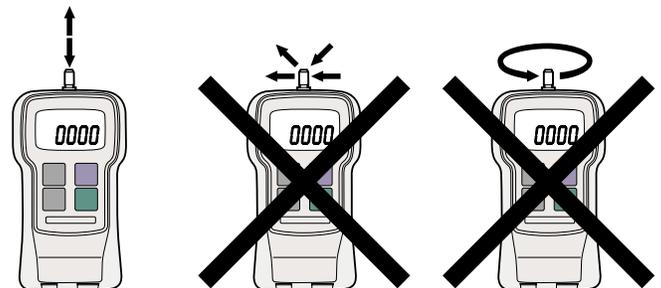

Fig. 1
**NOTE:** It is very important that you measure forces (tension or compression) that are in line with the measuring shaft and not at any angle (see fig. 1). Failure to observe this directive will damage the instrument. Also, after the gauge is positioned and ready to take a measurement (with the proper attachment in place) tare the unit by pressing the ZERO switch. In the PEAK mode to clear the display for another measurement, press the ZERO switch.